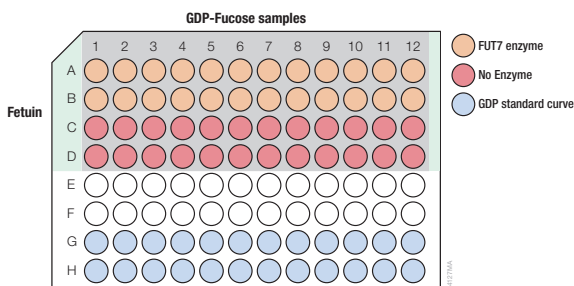

Figure 7. GDP-Fucose titration in a 96-well plate.
1. Following the plate setup in Figure 7, transfer 25µl of GDP standard serial dilution in duplicate into the wells designated for the standard curve.